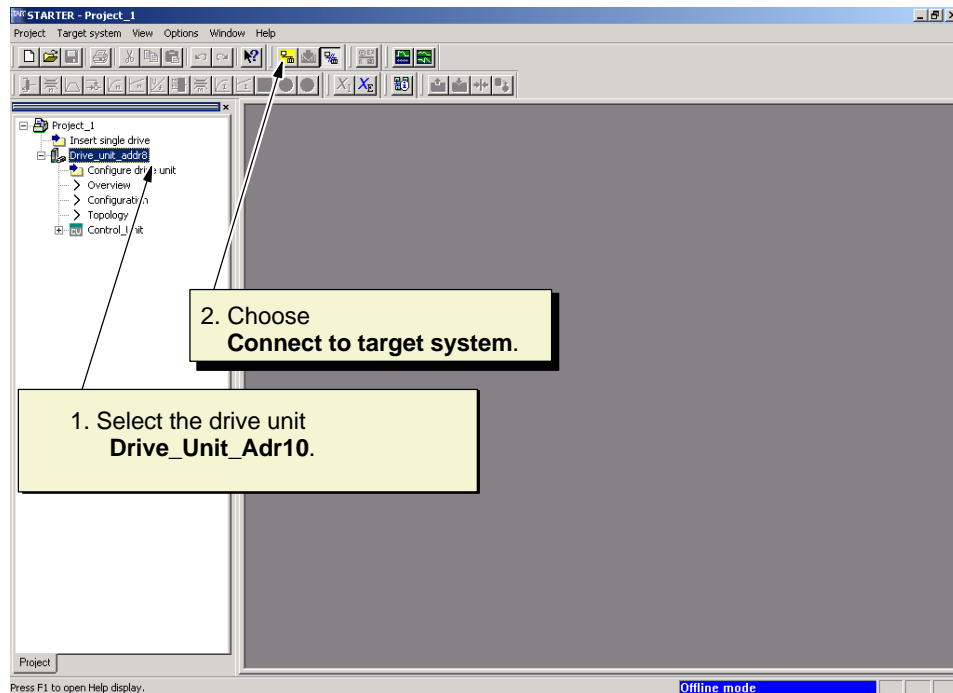

Fig. 5-6 Project_1
7. Click **Complete**. The new project and drive unit are displayed in STARTER (see Fig. 5-6).